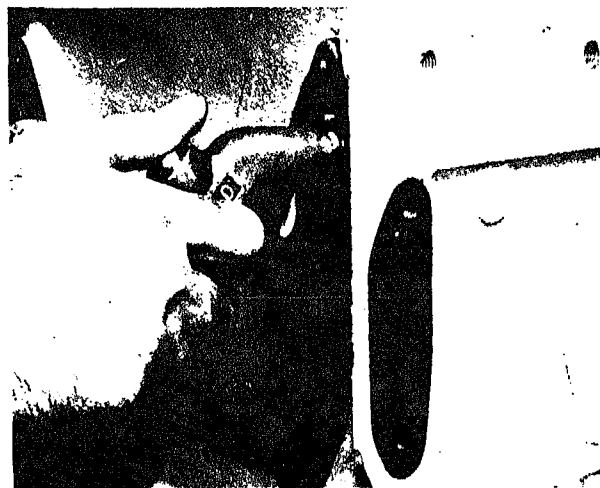

Fig. 1-1-1. Cleaning block oil passage
1. Run rods with brushes or swabs through all oil passages. Fig. 1-1-1.